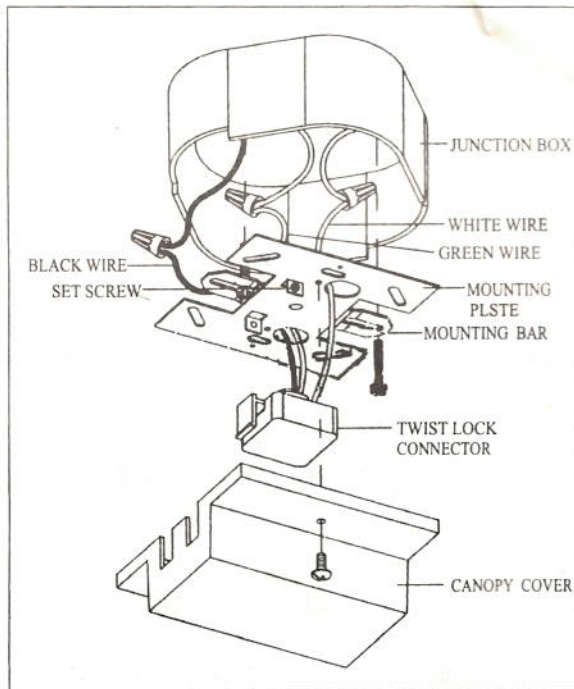

FIGURE 1
TO CONNECT YOUR TRACK SECTION TO A JUNCTION BOX, YOU WILL NEED THE FOLLOWING PARTS (INCLUDED) IN FIGURE 1 THE PARTS A & B & C ARE:
- (1) BE SURE THAT THE ELECTRICITY TO THE JUNCTION BOX HAS BEEN TURNED OFF.
- (2) LOOSEN THE SCREWS ON THE CANOPY.
- (3) FEED ALL 3 WIRES ON TWIST LOCK CONNECTOR THROUGH HOLES IN METAL MOUNTING PLATE WITH 2 GROUPS (WHITE & GREEN WIRES THROUGH ONE HOLE, BLACK WIRE THROUGH ANOTHER HOLE)
- (4) (REFER TO FIGURE 1) CONNECT THE BLACK WIRE FROM THE JUNCTION BOX TO THE BLACK WIRE OF THE TWIST LOCK CONNECTOR (A), USING WIRE CONNECTOR (PROVIDED)
- (5) (REFER TO FIGURE 1) CONNECT THE WHITE WIRE FROM THE JUNCTION BOX TO THE WHITE WIRE OF THE TWIST LOCK CONNECTOR (A), USING WIRE CONNECTOR (PROVIDED)
- (6) (REFER TO FIGURE 1) CONNECT THE GREEN GROUNDING LEAD IF AVAILABLE. FROM THE JUNCTION BOX TO THE GREEN GROUNDING WIRE OF THE TWIST LOCK CONNECTOR (A), USING WIRE CONNECTOR (NOT PROVIDED). IF THERE IS NO GREEN GROUNDING WIRE AVAILABLE FROM THE JUNCTION BOX, ATTACH THE GREEN GROUNDING WIRE FROM THE TWIST LOCK CONNECTOR TO ANY AVAILABLE SCREW ON THE JUNCTION BOX. MONNTING BAR CAN ROTATE
- (7) AFTER ALL CONNECTIONS ARE MADE, THE WIRES SHOULD BE ARRANGED SO THAT THE GREEN AND WHITE WIRES ARE ON ONE SIDE OF THE JUNCTION BOX AND THE BLACK WIRES ARE ON THE OTHER SIDE
- (8) (REFER TO FIGURE 1) ATTACH THE MOUNTING BRACKET TO THE JUNCTION BOX USE THE SCREWS PROVIDED WITH THE JUNCTION BOX.
- (9) ATTACH TRACK TO CEILING IN DESIRED POSITION, USING EITHER TOGGLE BOLTS OR WOOD SCREWS WITH WALL ANCHORS (PROVIDED). TRACK MUST BE POSITIONED BETWEEN TWO SCREWS ON METAL MOUNTING PLATE.